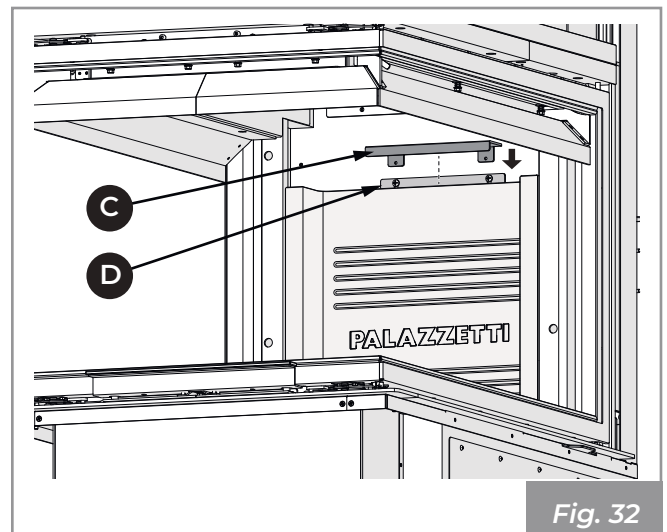

Fig. 32
- 2) Secure the refractory brick with the bracket (C) which fits into the support (D) (Fig. 32).